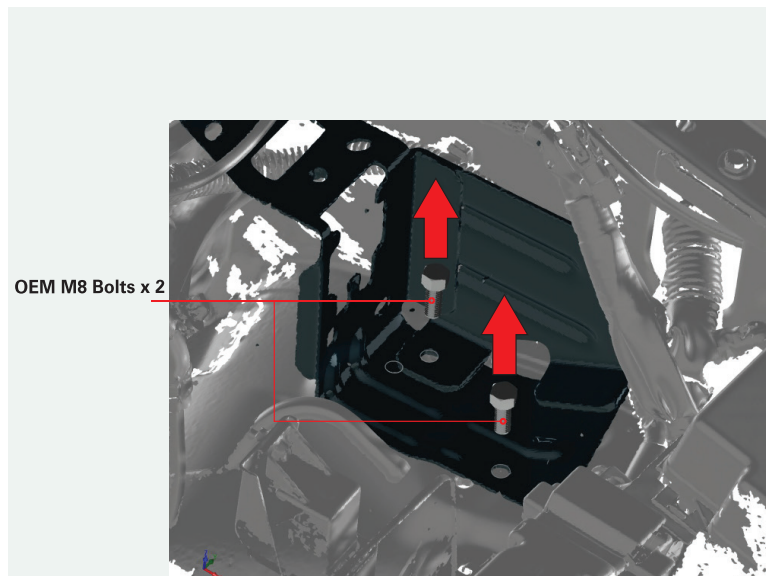

FIGURE 2A
- 4 Unscrew the 2 x OEM M8 bolts shown in FIG. 2A. Ensure you hold onto these M8 bolts, as you will be using these to fit the FB9810FC bracket later.